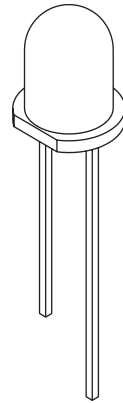

Fig. 2
- (i) Fig. 2 shows a standard LED.